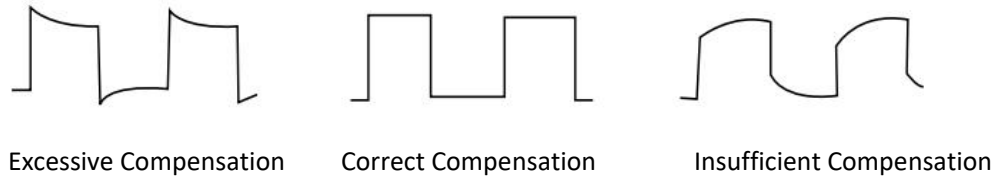

Figure 4-2 Compensating Calibration of Probe
- ② View the displayed waveform, as shown in Figure 4-2.